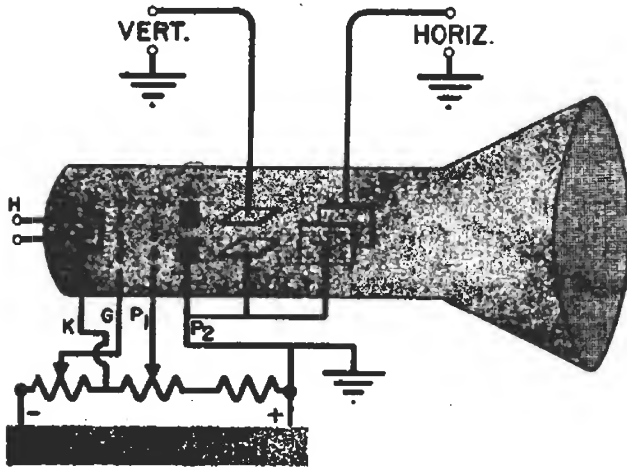

FIG. 3. The symbols used here are those commonly found on schematic diagrams representing the c.r.o. tube. Notice the connections to the deflecting plates.
► One plate of each pair, as shown in Fig. 3, is connected to anode P_2 so that the plates will normally be at the same potential as P_2 and thus not defocus the beam. Notice that it is the voltage difference *between* the plates which produces the deflection, *not* the fact that a connection is made to P_2 .